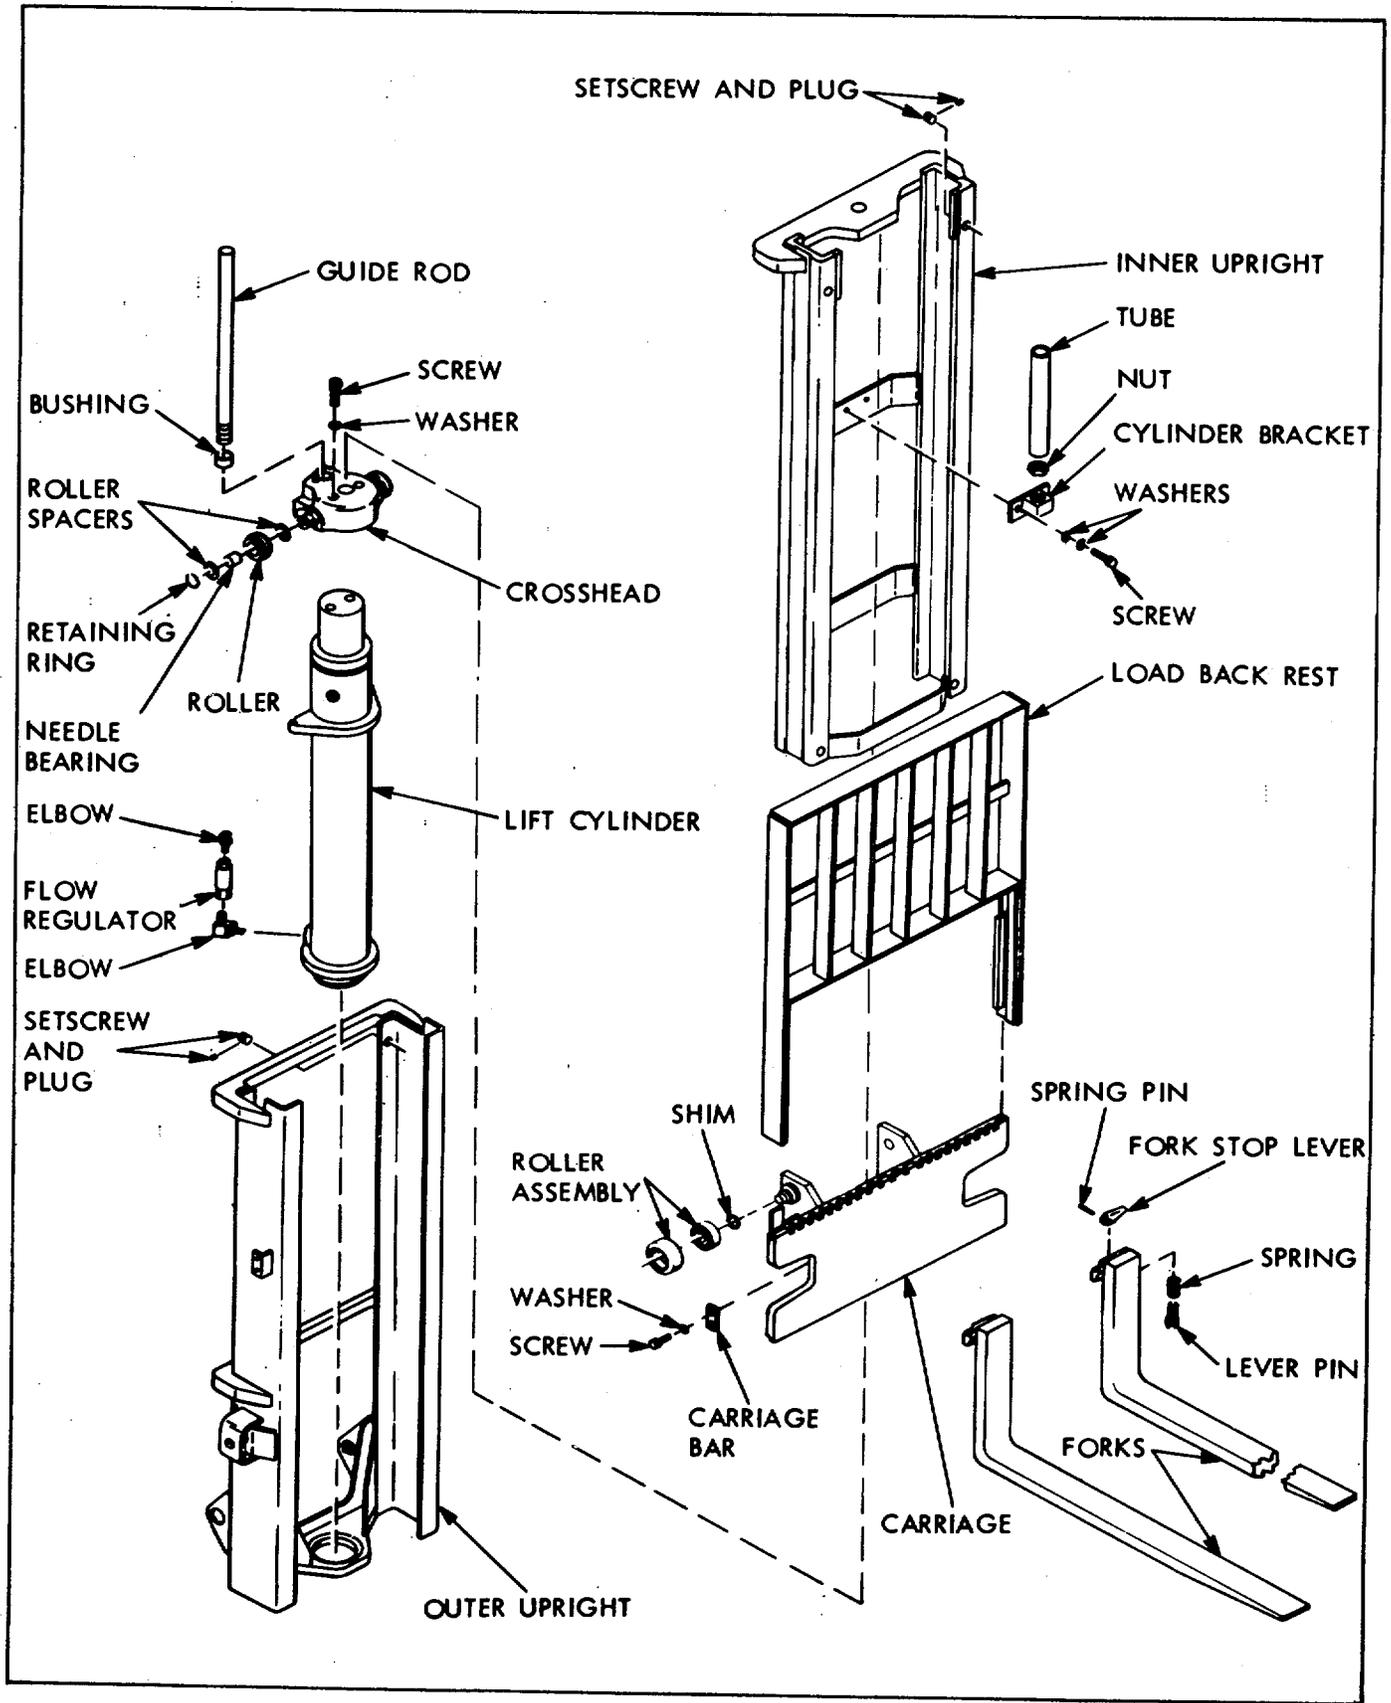

Figure 6-19. Mast Column, Exploded View
- (1) Remove chains (paragraph 6-30).
- (2) Remove hoist cylinder (paragraph 6-37).
- (3) Lift off load backrest (figure 6-19).
(4) Raise inner upright slightly, loosen nut at bottom of guide rod and unscrew rod from cylinder bracket on inner upright. Remove rod, tube, nut, and bushing within crosshead. Remove crosshead.
(5) Disassemble crosshead as follows: